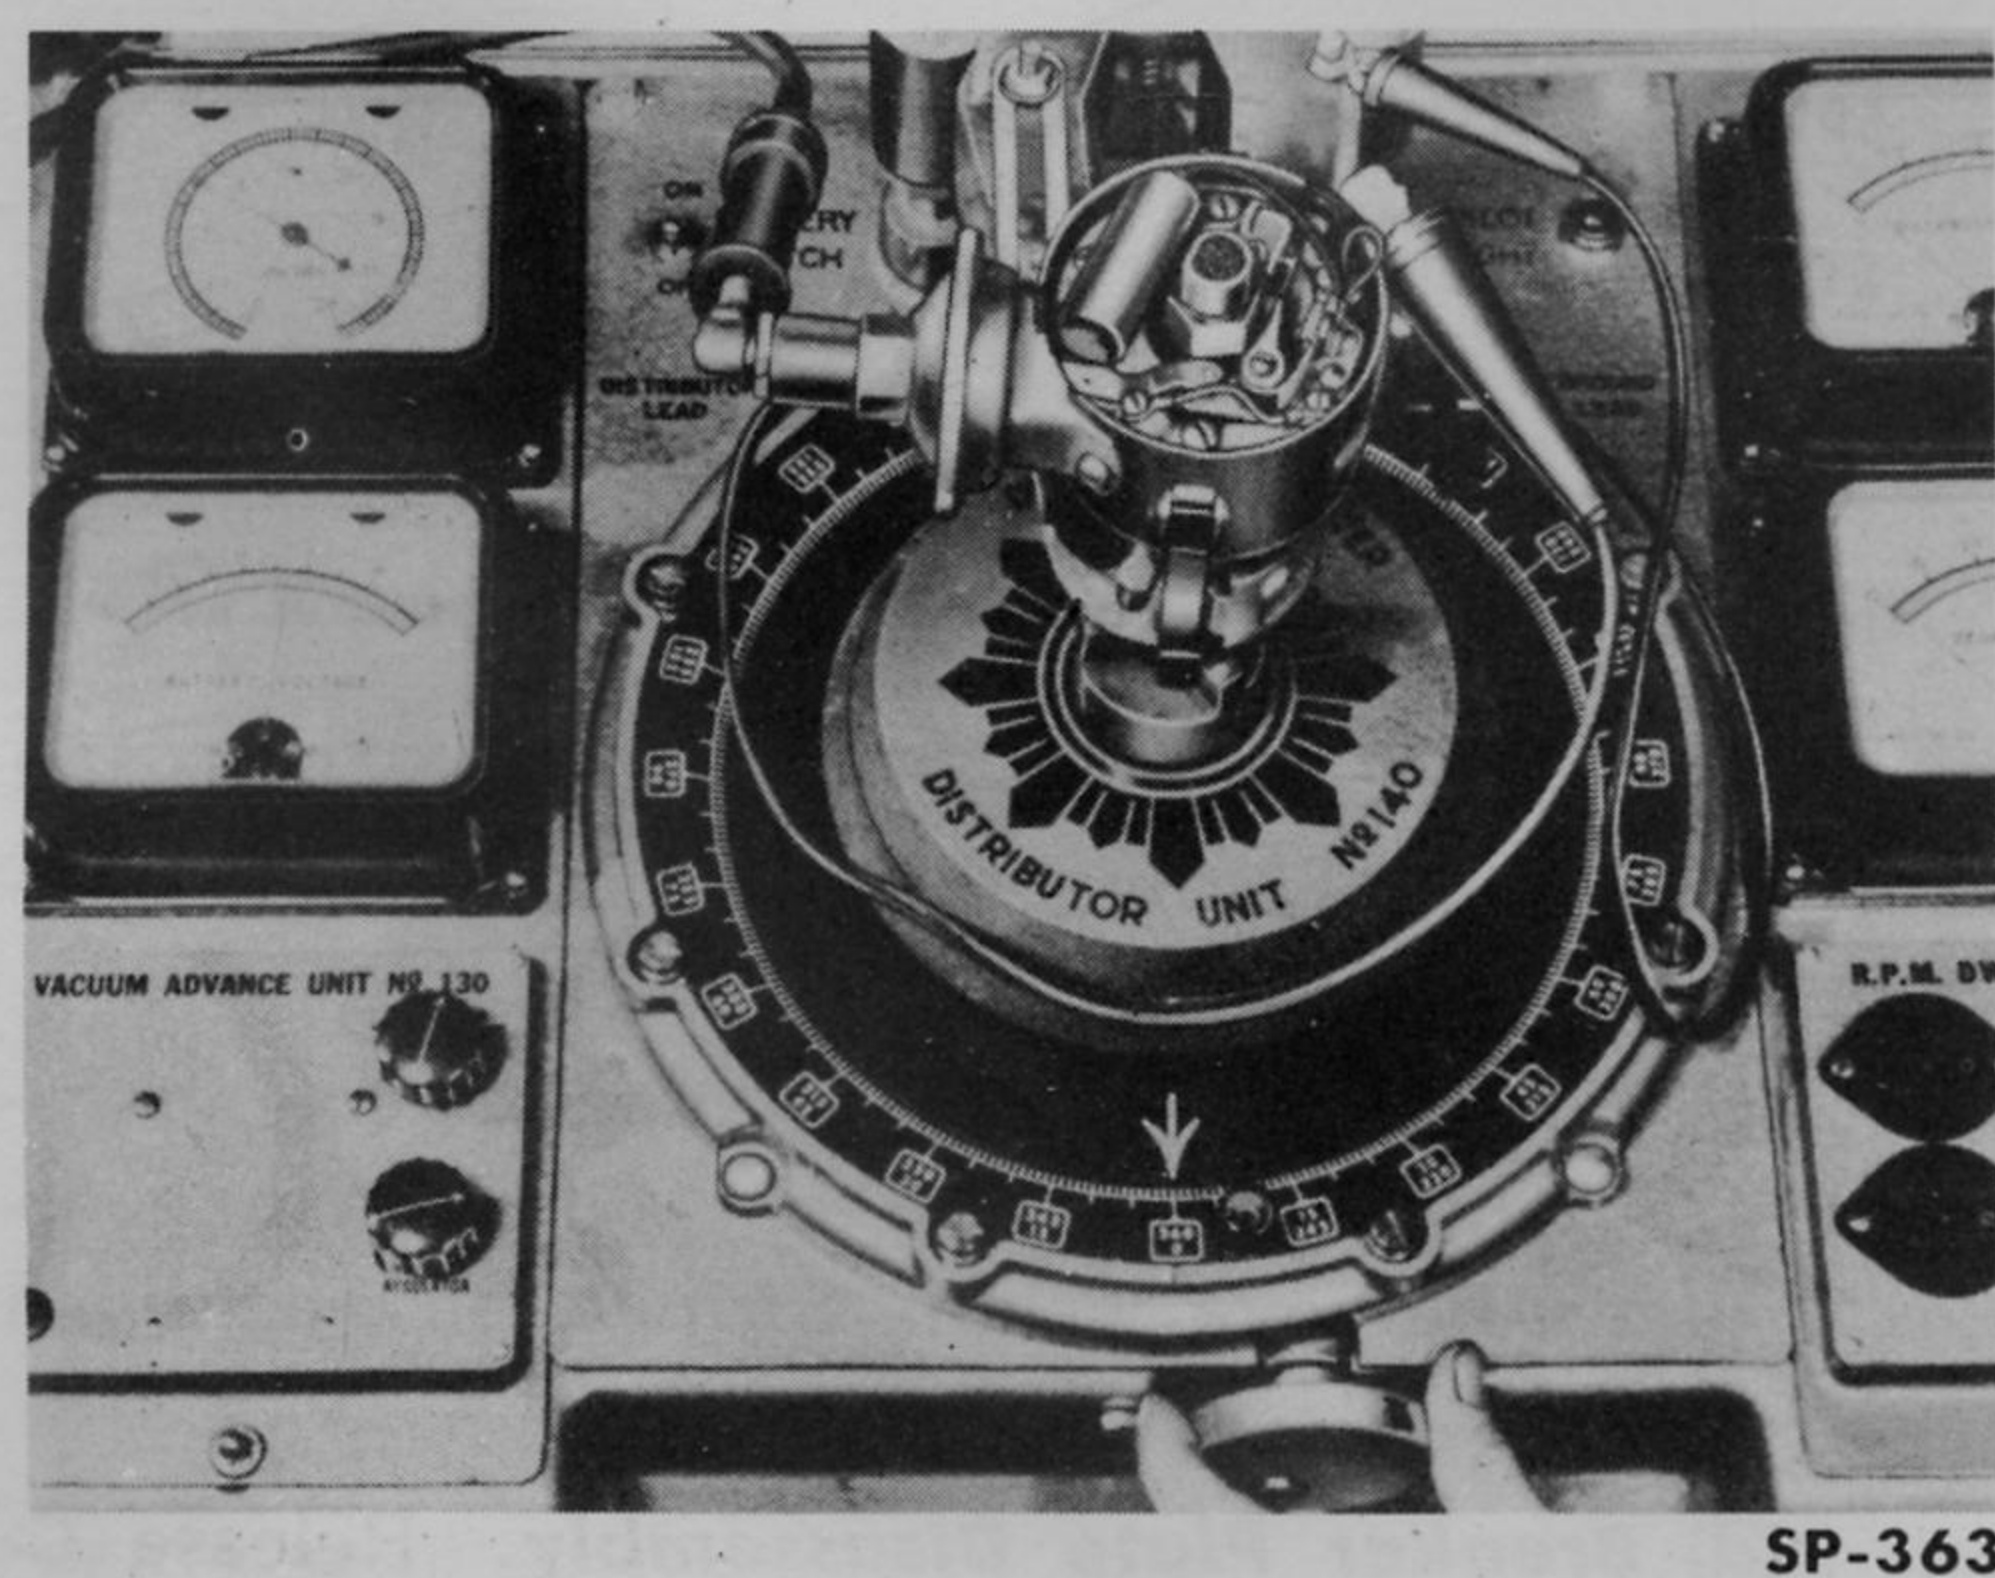

Fig. 429—Checking Distributor Vacuum Spark Advance
6. Vacuum Advance Tests. Fig. 428 shows that for either the Kaiser or Frazer distributor vacuum advance starts at 10 inches of mercury and increases in proportion to the increased vacuum to 5 distributor degrees (10 crankshaft degrees) at 15 inch vacuum reading. A distributor mounted in a test stand for checking vacuum spark advance is shown in Fig. 429.